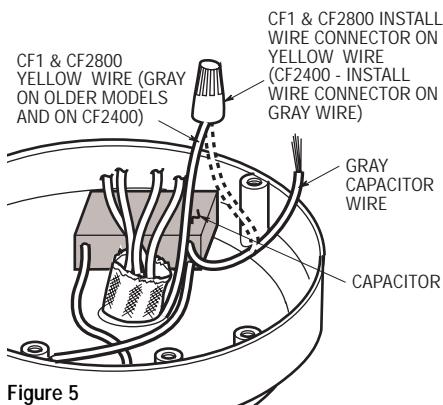

Figure 5
6. For Ceiling Fan Models CF1 and CF2800 Only. Locate the gray capacitor wire which is connected to the yellow wire (gray wire on older models) coming from the center of the motor. Remove the wire connector and separate the gray and yellow wires. Cap the yellow wire using a wire connector (supplied) (Figure 5).
6A. For Ceiling Fan Model CF2400 Only. Locate the gray capacitor wire which is connected to the gray wire coming from the center of the motor (yellow wire on older models). Remove the wire connector and separate the gray wires. Cap the gray wire using a wire connector (supplied) (Figure 5).